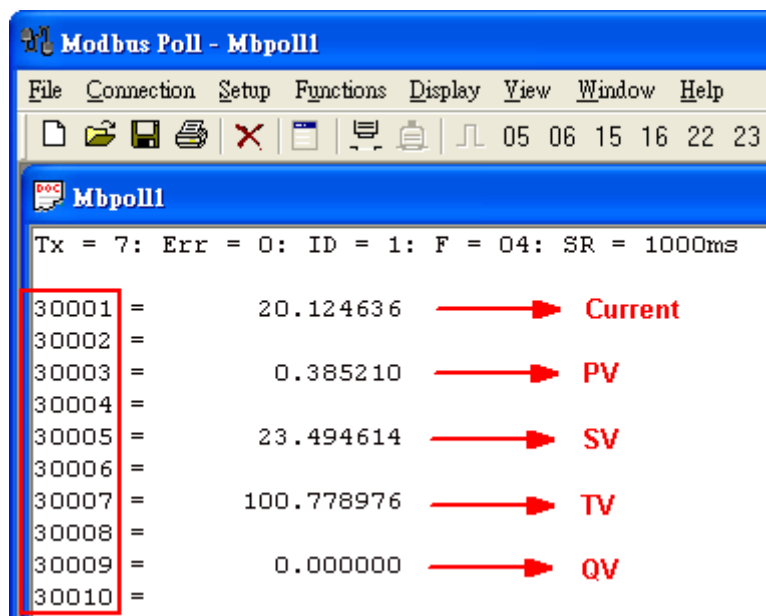

Figure 3-18 The CMD(3) data of HART device
<5> The CMD(3) data of HART device is shown like Figure 3-18.